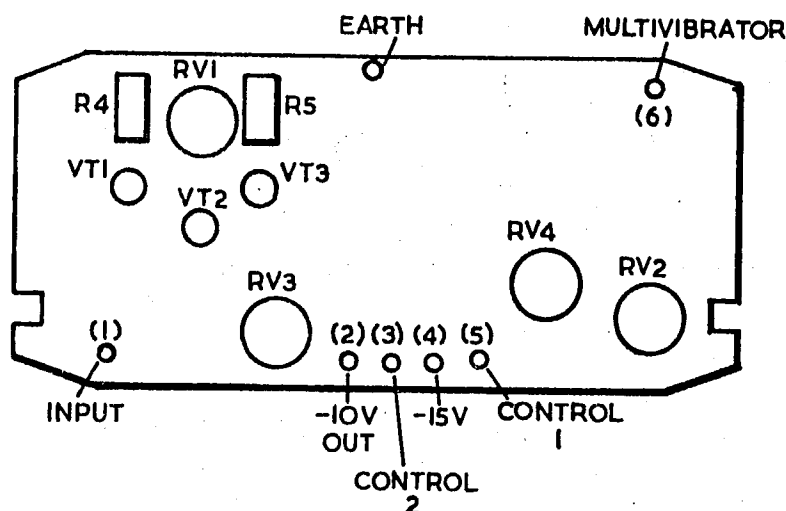

Fig. 16.3 BOARD J, VIEWED FROM COMPONENT SIDE
(i) Connect the 15V d.c. power supply, negative to pin 4 and positive to the earth pin (Fig. 16.3). Measure the voltage at the -10V OUT pin (2) (Fig. 16.3); it should be  $10V \pm 1V$ .
(ii) Connect the -10V OUT pin (2) to the input pin (1) (Fig. 16.3), via the 6.8 kilohm resistor. Set RV3 to mid-range and adjust RV1 so that the voltages at the collectors of VT1 and VT3 are equal (approximately -2V).
(i) Connect the 150 ohm resistor, via the ammeter, between the -15V supply (pin 4), and the pin shown as CONTROL 1, pin (5) (Fig. 16.3). Connect the pin labelled MULTIVIBRATOR, pin (6) (Fig. 16.3) to the slider of the 5 kilohm potentiometer and connect one end of the potentiometer to earth. Set the potentiometer to give minimum resistance. Adjust RV3 observing the ammeter reading which should be varying about a mean value at a rate of approximately 1 Hz.